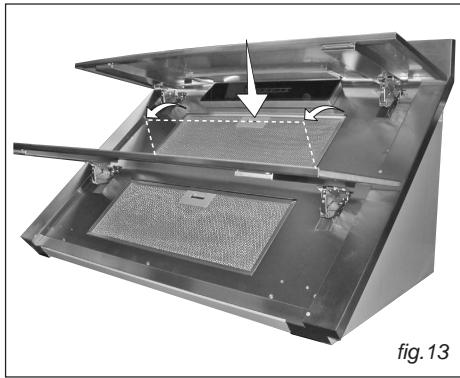

fig. 13
- Connect the air outlet pipe to the air vent of the hood. Use a flexible pipe and lock it to the air vent of the hood with a metal hose clamp - Fig. 13 (pipe and clamp are not provided).
• Removing the grease filter (fig.13)
Remove the grease filter by pushing the catch and turning it outwards (Fig.13).